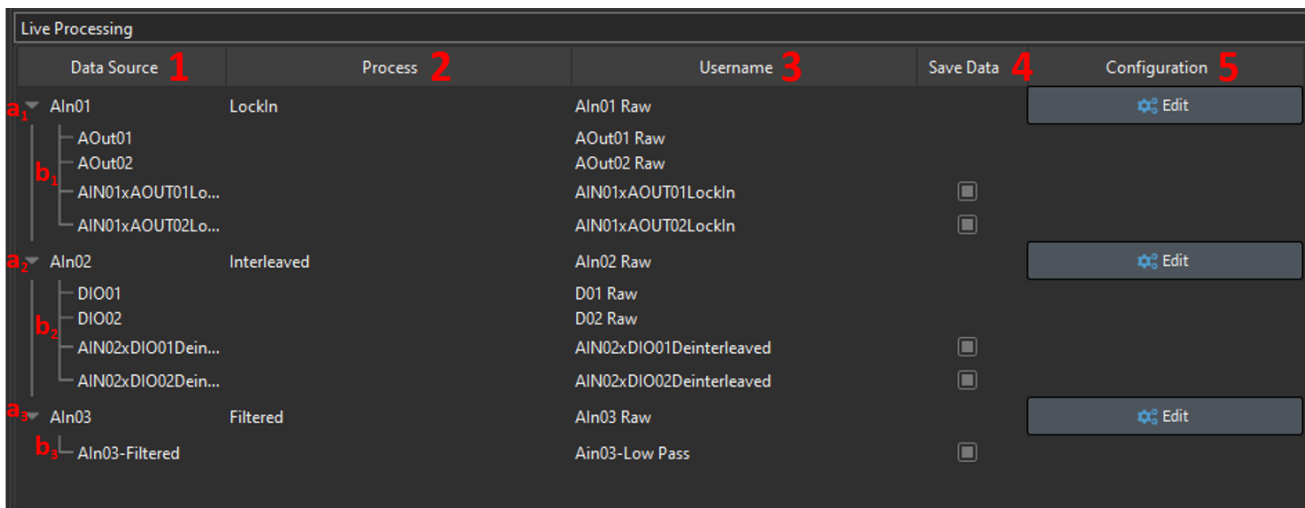

Figure 16.89: Live Processing, List
The **Live Processing** view contains a list of the added processes and all of their dependencies (Fig. 16.89). Users can delete, rename, change saving options within this list, or view/edit the configuration settings.
1. The **Data Source** column (Fig. 16.89, 1)
- a) The **Analog In** channels (Fig. 16.89, a) receives and saves the raw data from the sensor(s) without any live processing applied to the data.
- b) The **Dependencies** (Fig. 16.89, b) includes either DIO, AOUT and/or processed AIN channels required for the **Live Processing**.
2. The **Process** column (Fig. 16.89, 2) displays the type of *Live Process* calculation done of the raw data from **Analog In** channel (Fig. 16.89, a).
3. The **User Name** column (Fig. 16.89, 3), when double-clicked, specifies a new label for the channel. This label is the name that will be used to represent that channel in the **Graph List** in the **Acquisition View** (Section 16.4.2). Renaming a dependency also changes the **User Name** in the **Configuration** section.
4. The **Save Data** column (Fig. 16.89, 4) contains check-boxes which, if enabled, saves the channel data during the recording in the .doric data file. If disabled, all acquired data from that channel, even if viewed, will be lost.
5. The **Configuration** column (Fig. 16.89, 5) opens a **Channel(s) Editing** pop-up window where users can quickly check the settings used in the process configuration. In this window, users can even modify select parameters after creating the channel.